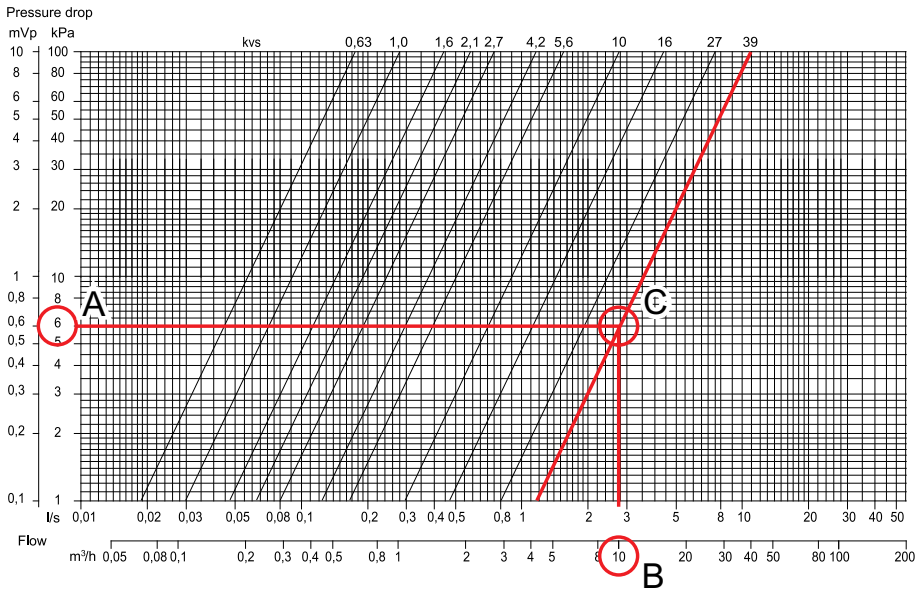

Fig. 7. Example: Calculation of the Kv value
At a pressure drop of 6 kPa (A) and a flow of 10 m³/h (B), the Kv value is 39 (C). See the markings in figure 7.